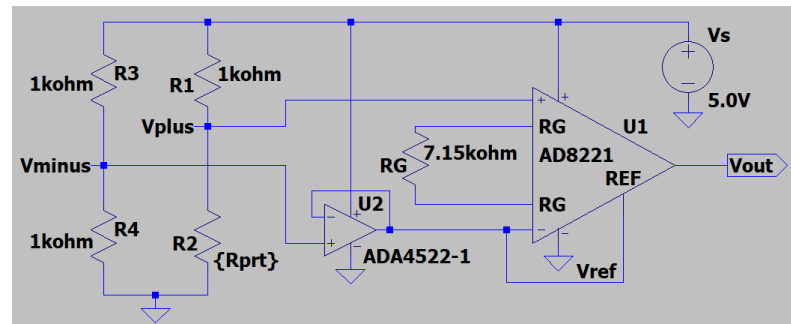
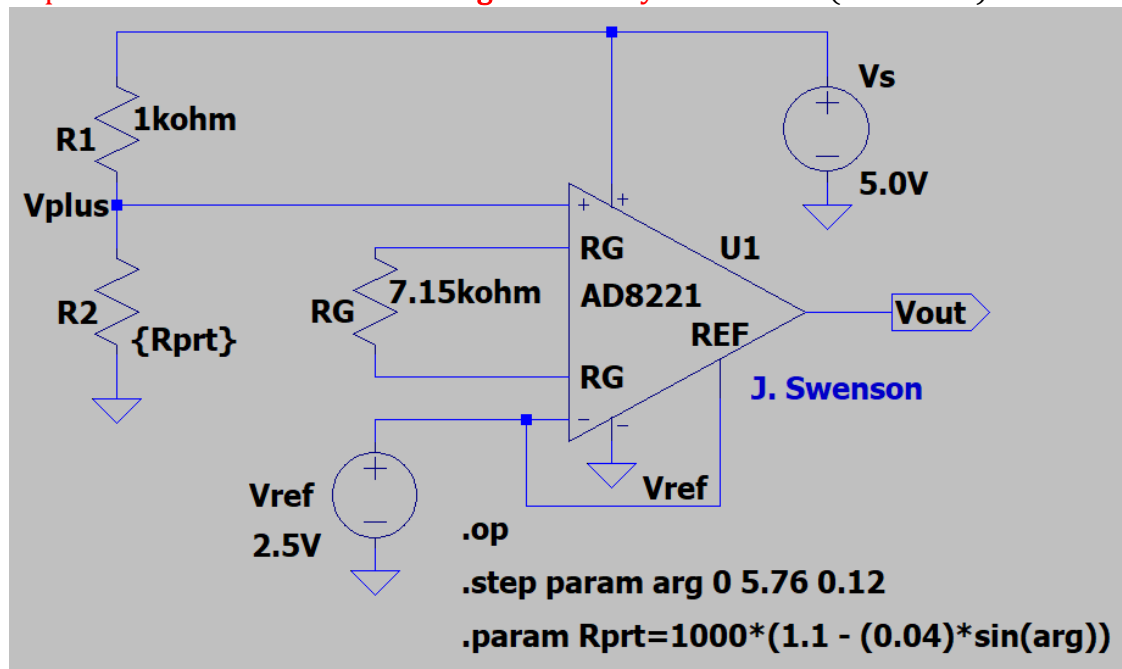

Figure 2: Practical PRT Measurement Circuitry.
Figure 3: Simplified PRT Measurement Circuitry for LTspice Simulation.
Because of a relatively small resistance change with temperature, PRTs are often measured using a Wheatstone Bridge, as illustrated below in **Figure 2**. In the circuit below, the Wheatstone bridge provides a small differential output voltage $V_{\text{plus}} - V_{\text{minus}}$ that varies with PRT temperature. For a $1000\ \Omega$ PRT, $V_{\text{plus}} - V_{\text{minus}}$ ideally equals 0 mV at a PRT temperature of $0\ ^\circ\text{C}$. In Figure 2, the relatively small differential $V_{\text{plus}} - V_{\text{minus}}$ voltage from the Wheatstone bridge is amplified by the AD8221 Instrumentation Amplifier (IA), to provide a larger V_{out} signal to be measured.
The single-ended, i.e., ground referenced, output voltage V_{out} from the above IA is to be digitized by an Analog-to-Digital Converter. In **Figure 2**, voltage divider resistors R3 and R4 provide a 2.5 V reference voltage on the V_{minus} node. Op-amp U2 is a voltage follower amplifier providing a constant 2.5 V to the V- and Ref pins of the AD8221, resulting in $V_{\text{minus}} = V_- = V_{\text{ref}} = 2.5\text{ V}$. The resulting IA output voltage is given as follows: $V_{\text{out}} = A_v(V_{\text{plus}} - V_{\text{minus}}) + V_{\text{ref}}$, where A_v is the differential voltage gain as determined by resistor R_G .
To reduce the LTspice simulation run time, the circuit of **Figure 2** can be simplified as shown below in **Figure 3**, where resistors R3, R4 and op-amp U1 are replaced by the 2.5 V voltage source named V_{ref} .
1. Construct the PRT measurement circuit illustrated in **Figure 3** in LTspice. The AD8221 IA symbol and model can be found in the LTspice [Opamps] parts library. This library can be accessed within the **Select Component Symbol** pane that opens when placing a part in LTspice by means of the component  icon on the top toolbar. Add your name to your schematic by means of the following sequence: **Edit** → **Aa Text**.
Replace the schematic shown in **Figure 3** with your version. (12 Points.)
The operating point, i.e. **.op**, command in conjunction with the **.step** and **.param** commands illustrated in **Figure 3** result in an operating point analysis at several different PRT temperatures. The **.step param arg 0 5.76 0.12** and **.param Rprt = 1000*(1.1 - (0.04)*sin(arg))** commands illustrated in **Figure 3** provide PRT resistance variations corresponding to typical summertime daily, i.e., diurnal, environmental temperature variations corresponding to the Earth's rotation.
1. From the AD8221 data sheet, determine the differential voltage gain A_v of the PRT Measurement Circuitry given in **Figure 3**, and include your calculations below. (3 points.)
2. The IA output voltage of **Figure 3** equals $V_{out} = A_v(V_{plus} - V_{minus}) + V_{ref}$, where A_v is the IA voltage gain, and $V_{minus} = V_{ref} = 2.5$ V. Derive an equation for V_{plus} from the above expression, including your work below. As a check on your resulting V_{plus} equation, a V_{out} value of 3.5 V should result in a V_{plus} value of approximately 2.63 V. (3 points.)
3. Based on the voltage divider circuit of **Figure 3**, derive an expression relating R_{prt} to V_s , V_{plus} and R_1 , including at least three steps in your derivation. As a check on your derived equation, a V_{plus} value of 2.5 V for the V_s and R_1 values given in **Figure 3** should result in an R_{prt} value of 1000 Ω . (8 points.)
The output voltage V_{out} from the Instrumentation Amplifier in **Figure 2** is referred to as an analog signal, as it is continuous in time and amplitude and analogous to the PRT temperature being measured. An Analog-to-Digital Converter (ADC) is used to convert analog voltages into numeric values, represented by digital bits, for processing and storage. Since an ADC has a finite number of unique digital output bit combinations, the continuous amplitude analog signal is rounded or quantized in the analog-to-digital conversion process. The number of unique amplitude levels for an m -bit ADC, where m is an integer, equals 2^m . For example, a 12-bit ADC provides $2^{12} = 4096$ unique amplitude levels corresponding to the 4096 unique digital bit combinations. For an ideal 12-bit ADC with a 0 to 5 V input range, any two adjacent bit combinations corresponds to a difference voltage of $(5 \text{ V})/2^{12} = (5 \text{ V})/4096 = 1.22 \text{ mV}$, referred to as the voltage resolution. Input voltage changes less than the ADC resolution are not large enough to change the digital output, resulting in a digital version that only approximates the voltage levels of the original analog signal. In other words, an ADC cannot resolve input voltage changes less than the resolution. Hence, the ADC measurement resolution is an important metric regarding the conversion from a continuous amplitude analog signal to digital representation. You are to determine the temperature measurement resolution for the PRT Measurement system illustrated in **Figure 2**, for an ADC having $m = 8, 10, 12$ and 14 bits. This can best be